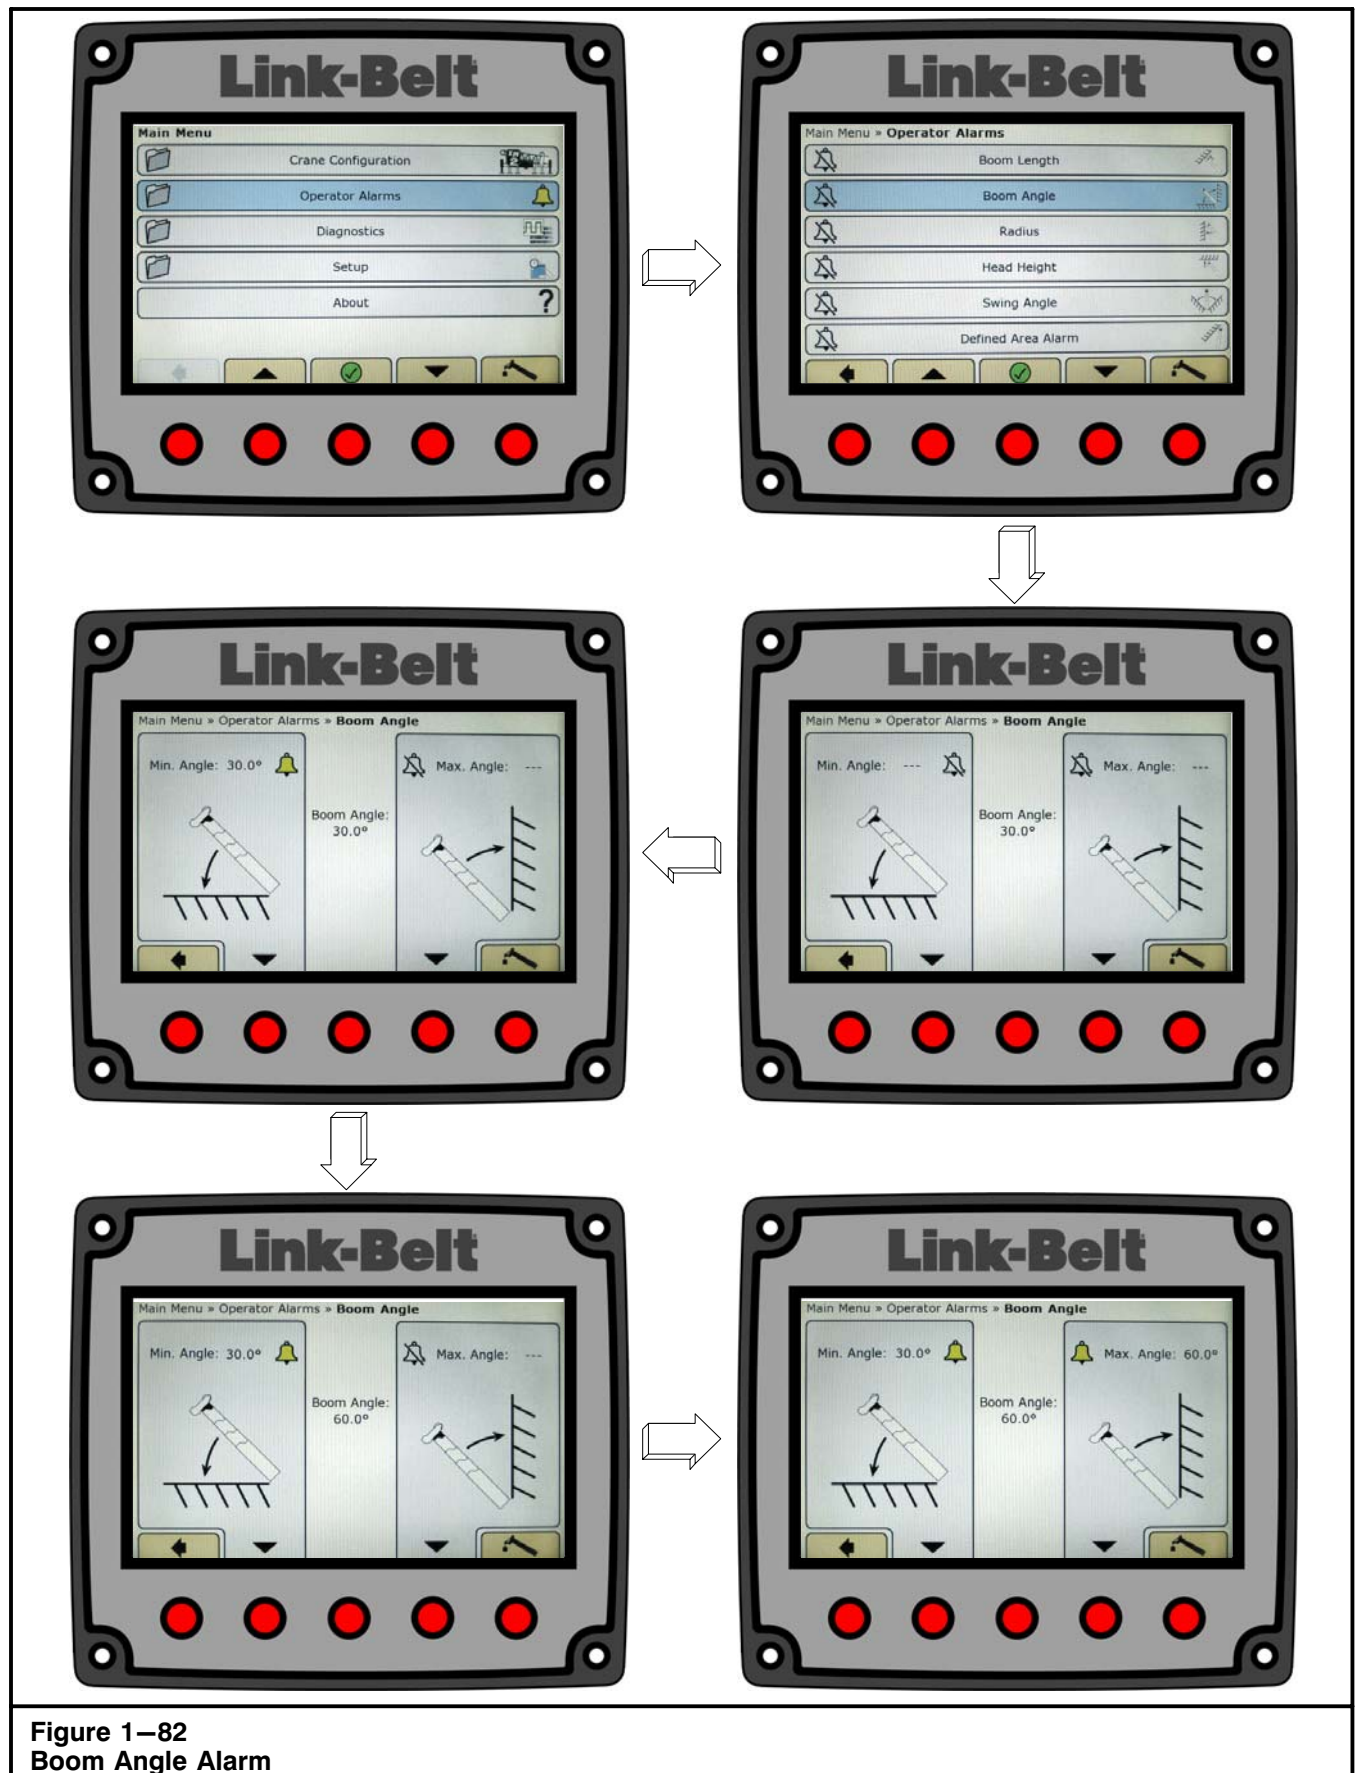

Figure 1–82
2. Scroll to Operator Alarms, and press the OK/Enter button . Refer to Figure 1–81.
3. Scroll to the desired alarm to be set, and press the OK/Enter button . Refer to Figure 1–82.